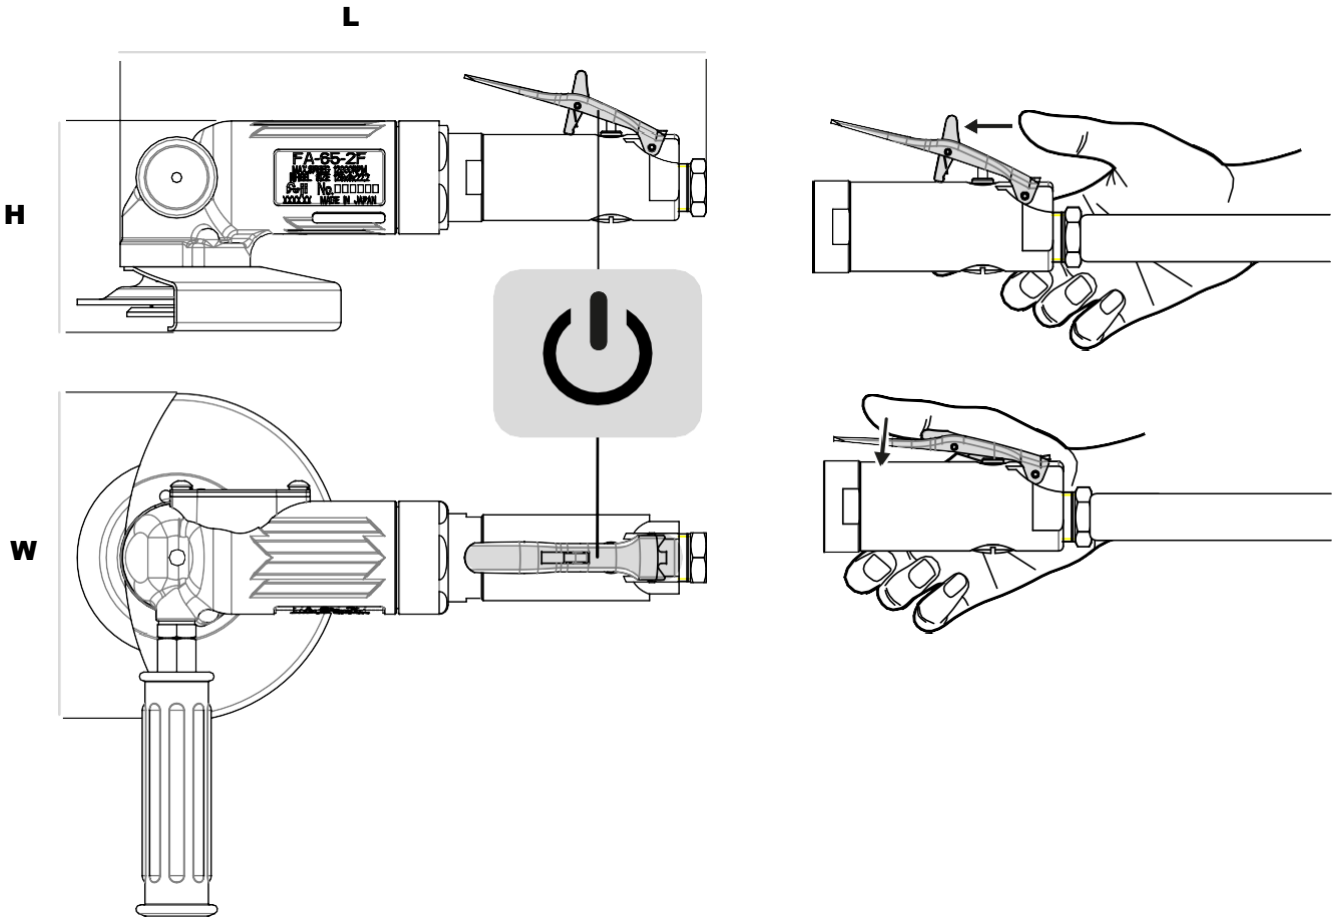

Figure 02
- See figure 02 to operate the tool.